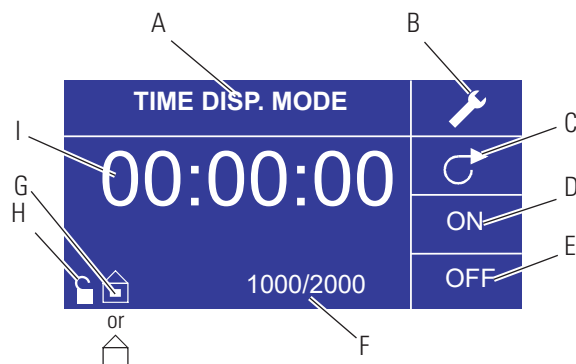

Figure 3-4. Time Dispense Mode Screen
- I. Time Display: The center digits show the remaining time of the drive in the ON or OFF Time highlighted on the right of the display (position D or E, Figure 3-4).
6. Setting ON Time: To set the ON Time, use the directional pad and ENTER key to select the ON field (see position D, Figure 3-4). Doing so will highlight the timer in the center of the screen (see position I, Figure 3-4). Pressing ENTER again, allows the timer to be set using the UP/DOWN arrows. Switch between digits using the LEFT/RIGHT arrows. Having selected an optimal ON Time, press ENTER again to validate. The drive will now run for the time appearing in the center of the screen.
7. Setting OFF Time: To set the OFF Time, use the directional pad and ENTER key to select the OFF field (see position E, Figure 3-4). Doing so will highlight the timer in the center of the screen (see position I, Figure 3-4). Pressing ENTER again, allows the timer to be set using the UP/DOWN arrows. Switch between digits using the LEFT/RIGHT arrows. Having selected an optimal OFF Time, press ENTER again to validate. The drive will stop running for the time appearing in the center of the screen. **NOTE:** If the OFF Time is set to 00:00:00, the drive requires a START/STOP **input** from the keypad or the remote I/O Connector to start the next dispense.
8. Selecting Batch Size: Before running the drive at the selected ON/ OFF Times, select a batch size for the operation. To do so, use the directional pad and the ENTER key to select the BATCH icon (see position F, Figure 3-4). In the Batch Count screen, press the ENTER key and then use the UP/DOWN arrows on the directional pad to select a batch size. Switch between digits using the LEFT/RIGHT arrows. Press ENTER one more time to validate the selected batch size. When set to zero (0) the drive will run for an infinite number of cycles and the symbol is displayed. Use the directional pad to select EXIT to return to the Time Dispense Operation Screen.
10. Resetting Batch: To reset a batch, use the directional pad and the ENTER key to select the BATCH icon (see position F, Figure 3-4). In the Batch Count screen, use directional pad to select RESET and press the ENTER key to reset the batch count, select EXIT to return to the main Time Dispense Mode operation screen.